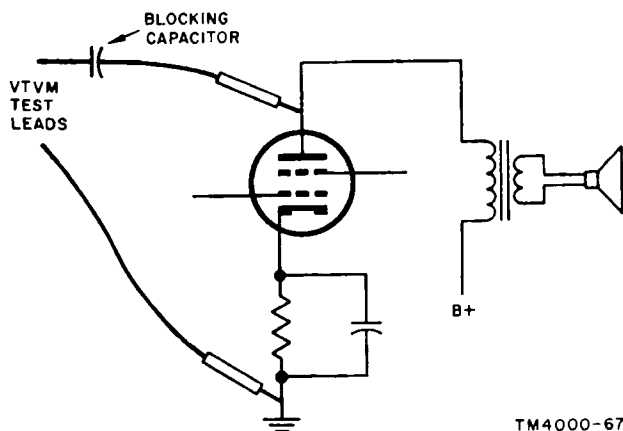

Figure 81. Signal voltage measurement in the plate circuit.
c. The signal output may be at a low level at this point also, depending on the sensitivity of the receiver. In this case, the connection shown in figure 81 can be used at the highest point of signal voltage in the receiver. A dc blocking capacitor should be connected in the hot lead to protect the meter. If a regular output meter is available, the external capacitor need not be included because there is one connected internally.